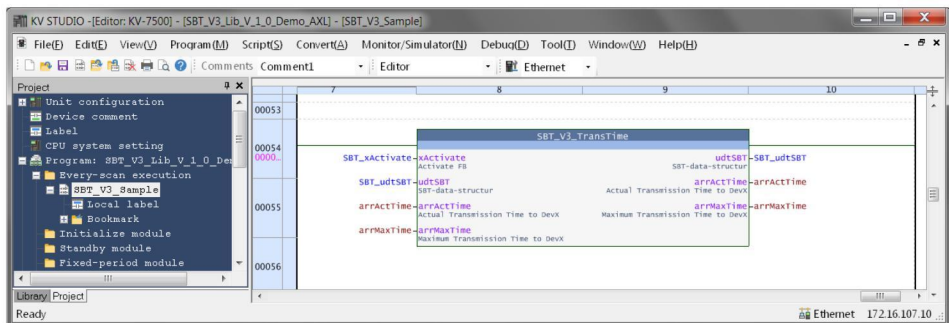

Figure 4-26 SBT\_V3\_TransTime function blocks
- Connect the function blocks as shown in Figure 4-26.